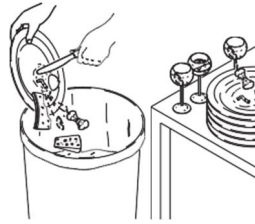

Fig. 13
- remove food remains from cutlery before placing them in the dishwasher to washing (fig. 13)